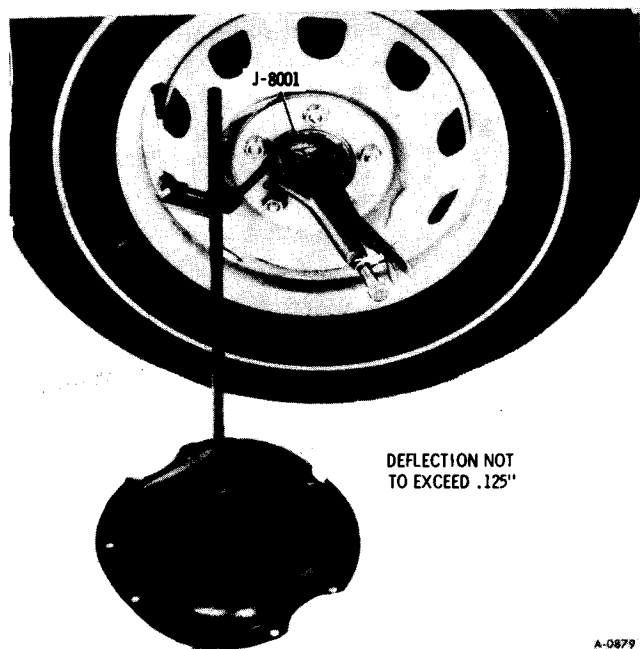

Figure 22—Ball Joint Vertical Check
2. Position dial indicator as shown in figure 22.